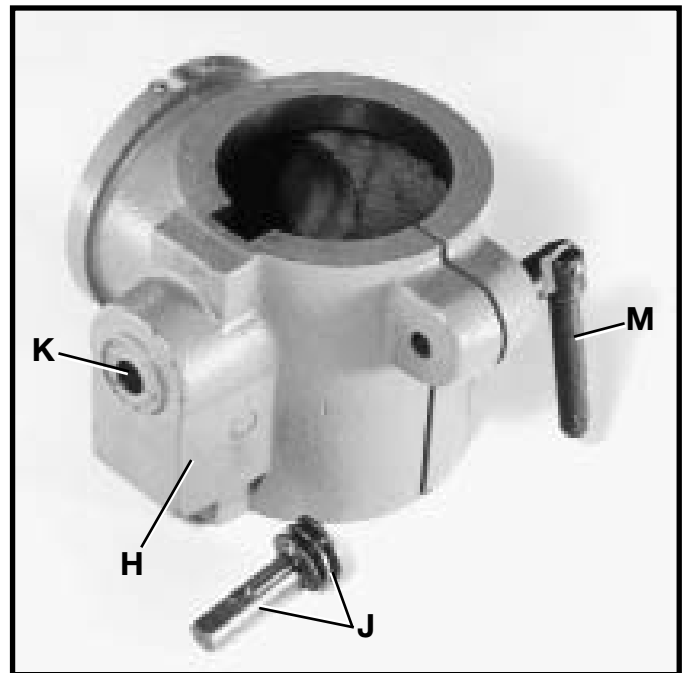

Fig. 4
3. Assemble worm gear (J) Fig. 4, to the inside of hole (K) in table bracket (H).
4. Thread table lock lever (M) Fig. 4, into hole in table bracket, as shown.